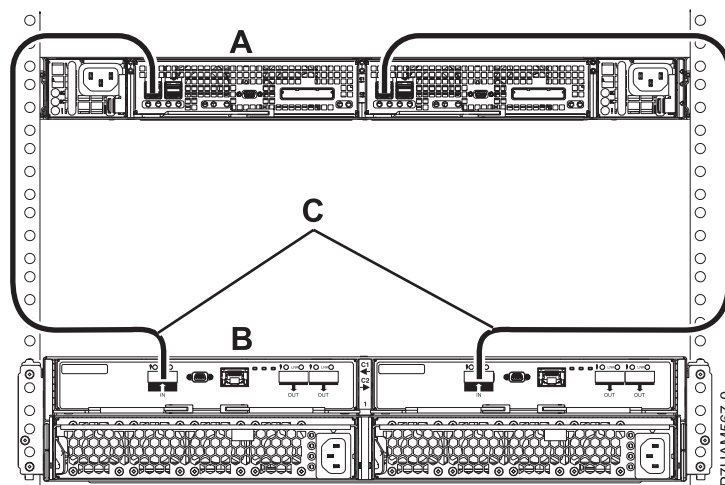

Figure 39. Mode 1 connection of one 5887 disk drive enclosure by using EX cables to a PCIe storage enclosure
13. Perform the mode 1 connection of one 5887 disk drive enclosure (B) by using EX cables (C) to a PCIe storage enclosure with support for SAS disk drawers (A) as shown in Figure 39.
- Each internal adapter in the PCIe storage enclosure (A) has access to the other adapter and to all disk drive bays.
- Both EX cables (C) from the same 5887 disk drive enclosure must be attached to the same numbered SAS port on the PCIe storage enclosure as shown in Figure 39.